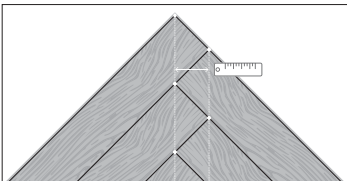

Figure 7
- On an assembled triangle, measure the distance between two straight lines, starting at the corner of the planks (Figure 7).
- Divide the measurement from the previous bullet point by two to get the X measurement (Figure 7).